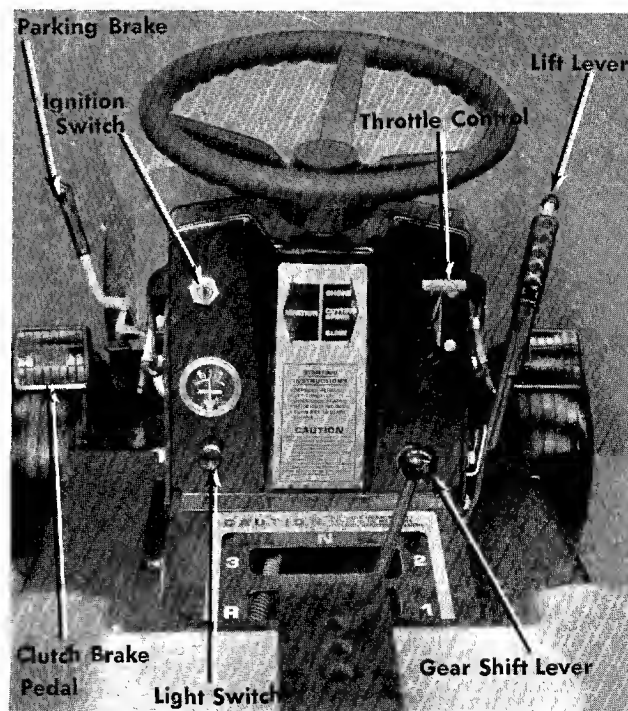

FIGURE 18. CONTROLS
g. **Ignition Switch.** Turn the switch all the way to the right to engage the starter. As soon as the engine starts, release the ignition key so that the starter is switched off. Turn the key to the left to shut off the engine. See figure 18.
h. **Light Switch.** Pull the light switch out to turn on the lights. See figure 18.
i. **Ammeter.** The ammeter registers the rate of battery charge or discharge. The ammeter should register on the plus (+) side when the engine is running in the fast position until the battery is completely charged. With a fully charged battery or with the engine idling the ammeter will not show a charge. See figure 18.
- Step 2. With the machine set on level ground place the gear shift lever in NEUTRAL (N) position. See figure 18.
- Step 6. Turn the ignition key to the right to START position to start the engine. Allow the key to return to the ON position. See figure 18.
To stop the rider from moving forward or backward, depress the clutch-brake pedals. See figure 18.